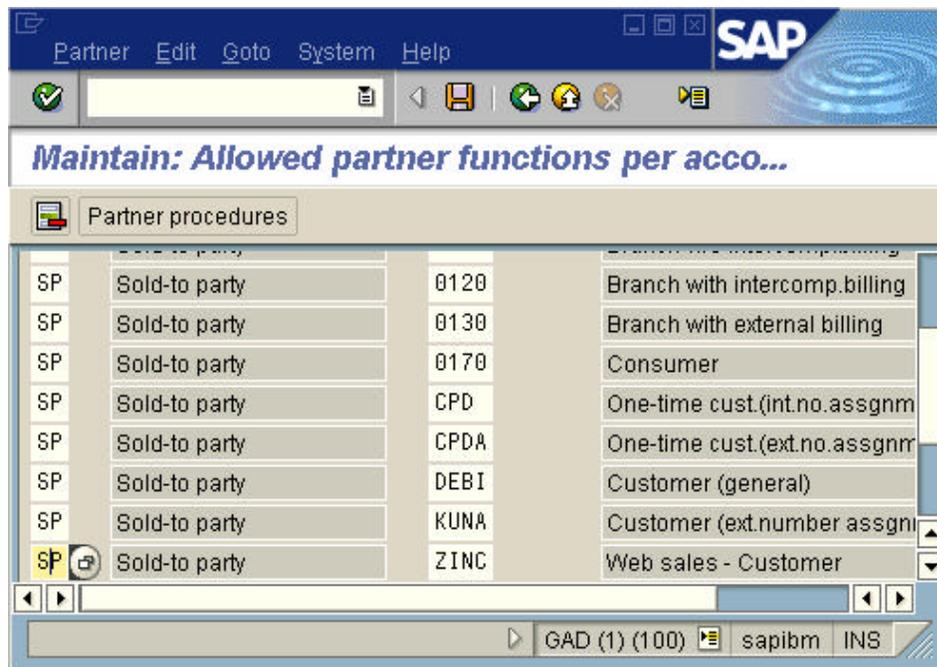

Figure 25: Assigning the partner functions
6. Add **SP** (sold-to), **BP** (bill-to), **SH** (ship-to), and **PY** (payer) partner functions for the account group ZINC as shown in Figure 25.